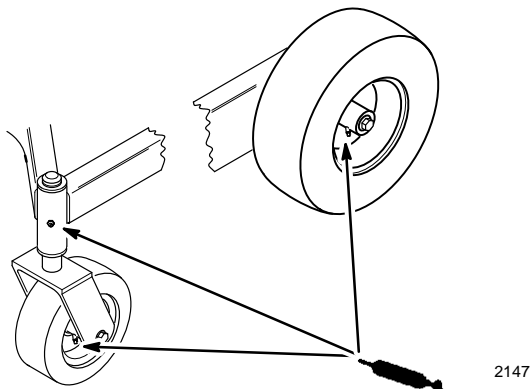

Figure 24
1. Lubricate the wheel bearings and front spindles until grease begins to ooze out of the bearings (Fig. 24).